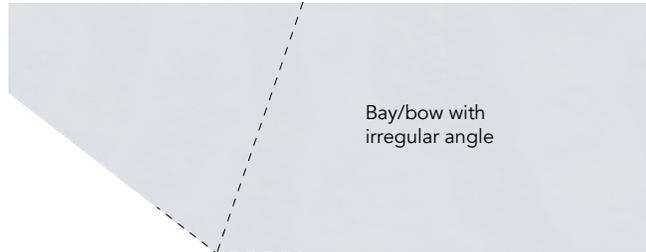
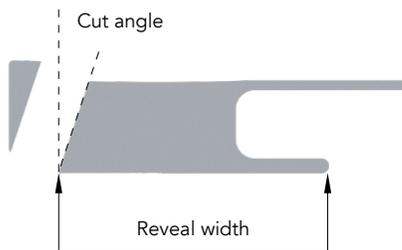

Figure 8
Figure 9
- Determine the angle of the bay/bow window or architecture wall where a typical 90° outside corner post will not work (Figure 8).
- Set your table saw angle determined for the trim to achieve the angle of the window or wall with irregular corners. Example: If the window or wall corner is 110°, then your saw angle cut for the trim is 35° (Figure 8) for each length of trim. Two (2) lengths needed per corner (Figure 9).